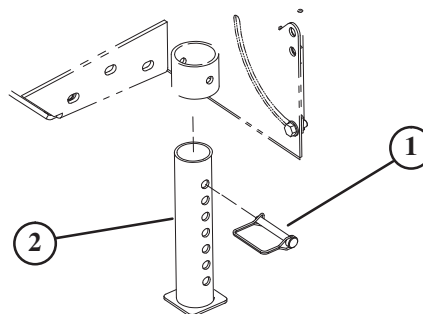

Figure 3
1. Remove snapper pin securing stand to tube on blower frame (Fig. 3).